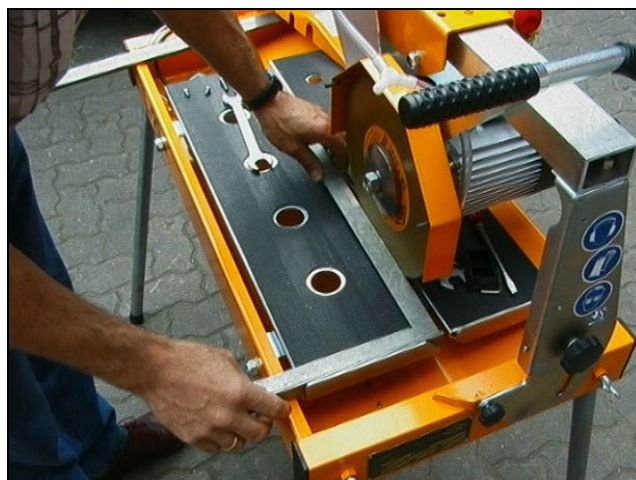

Fig. 5.16 Applying a 90° angle
2. Place a 90° angle between blade and end stop (Fig. 5.16)!